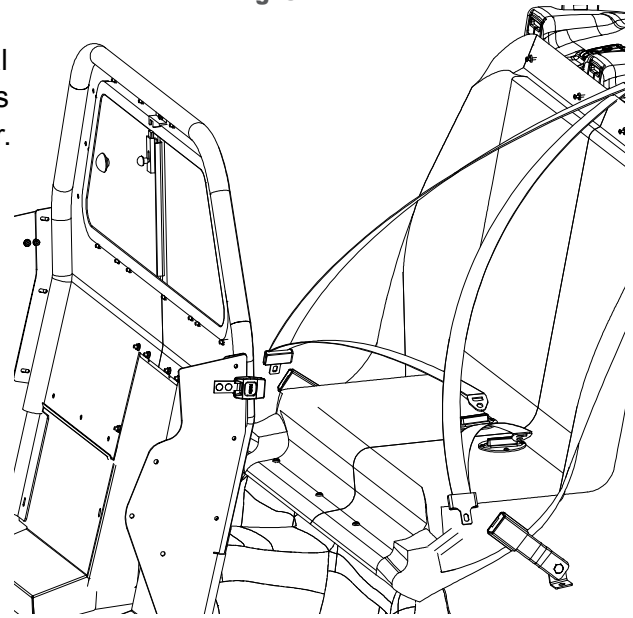

Fig. 9
- B. After the seat belts have been installed, then buckles can be attached to the partition. We recommend drilling holes in the B-pillar side sheet metal panel and attaching as shown in Figure 9. This buckle is used to hold the seat belts open for loading the prisoner.